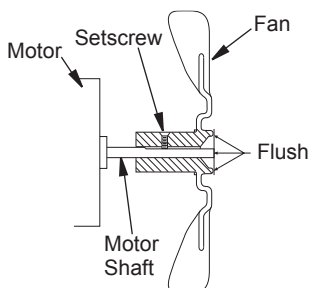

Figure 13 - Fan Cross Section
6. Replace fan on motor shaft. Place fan hub flush with end of motor shaft (see Figure 13).